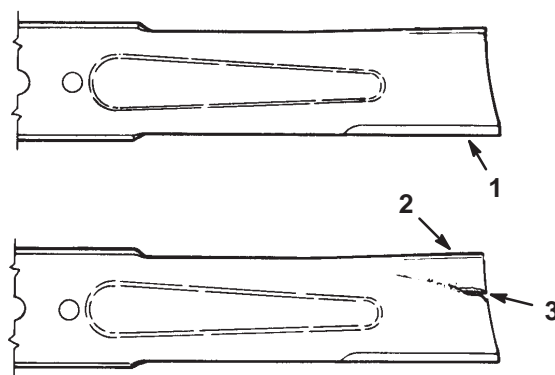

Figure 41
1. Inspect the cutting edges (Fig 41). If the edges are not sharp or have nicks, remove and sharpen the blades. Refer to Sharpening the Blades on page 33.
2. Inspect the blades, especially the curved area (Fig. 41). If you notice any damage, wear, or a slot forming in this area (item 3 in Fig. 41), immediately install a new blade.